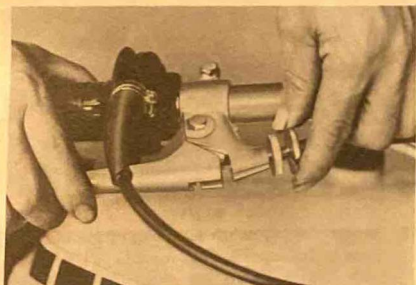

Fig. 31
- b. Adjust cable length according to the specification in the model Service Manual. (Fig. 31)